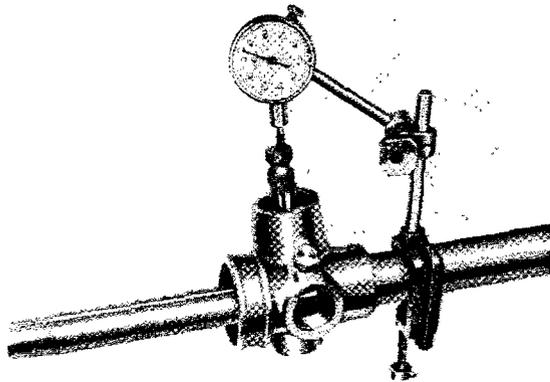

Fig. 8. Measuring pinion end float
1. Assemble the thrust washer (6), bush (5) and retaining ring (3) to the pinion (39). Insert the assembly into the pinion housing and secure the pinion with the circlip (1).
2. Mount a dial gauge on the tube as shown on Fig. 8. Push the pinion down to its limit and zero the dial gauge. Lift the shaft until the retaining ring contacts the circlip and note the dial reading which represents the total pinion shaft end float. Remove the circlip (1) and withdraw the pinion shaft assembly. Remove the retaining ring (3) and renew its rubber "O" ring if required.
4. Assemble the shim pack (4) and retainer ring (3) to the pinion. Re-insert the assembly into the housing and finally secure it by fitting the dowel (2) and circlip (1).